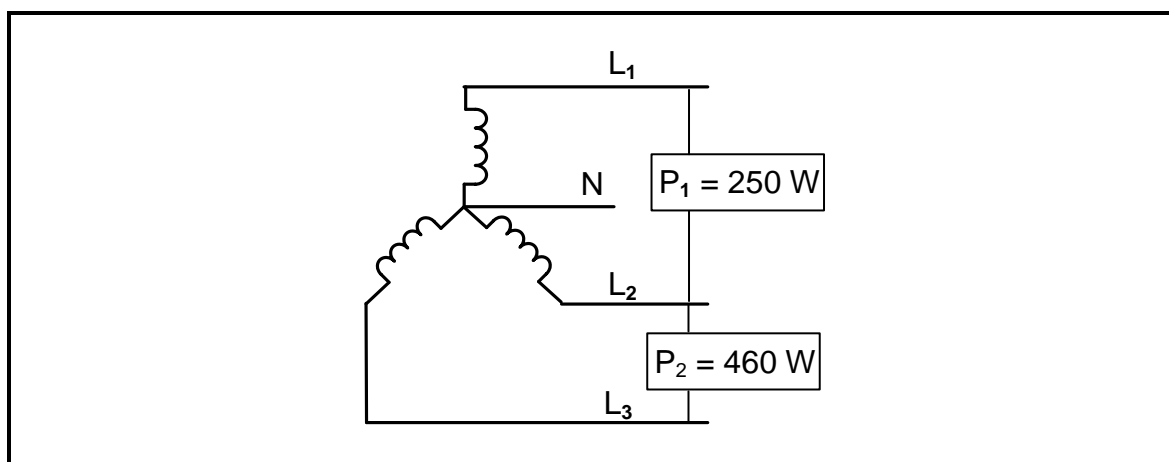

FIGURE 4.5: THREE-PHASE LOAD
- 4.5 Refer to FIGURE 4.5 below and answer the questions that follow.